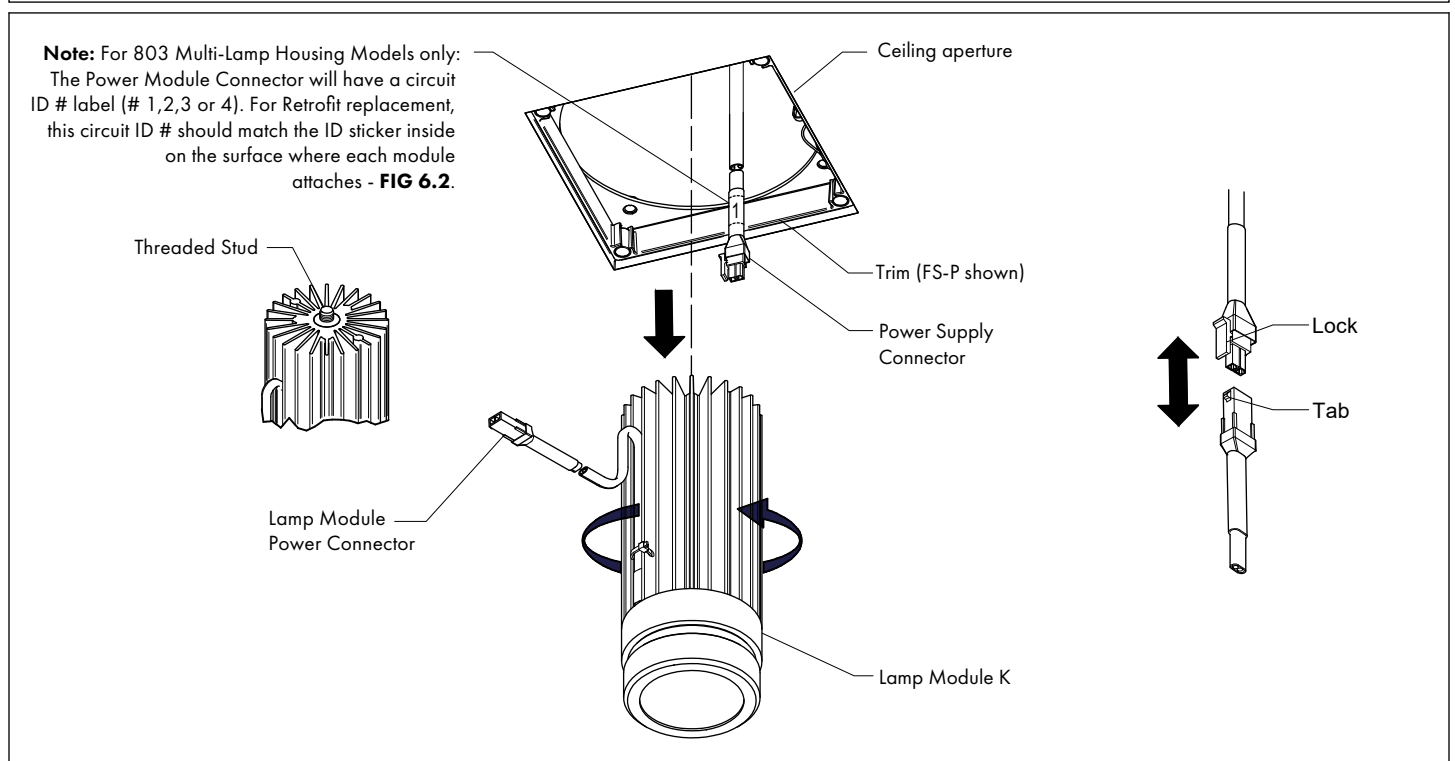

FIG 5.2 Remove Lamp Module K
STEP 1 Locate and disconnect Lamp Module Power Connector - **Fig 5.2.**
STEP 2 Loosen Lamp Module K from Housing by rotating counter clockwise & remove through ceiling aperture & Disconnect wire connectors - **Fig 5.2.**